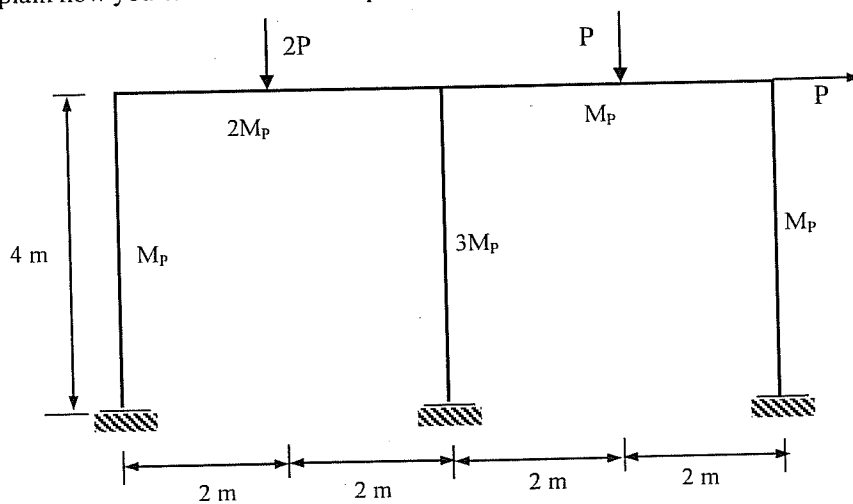

Figure Q6
- (ii) A two-bay frame structure is shown in Figure Q6. Dimensions and plastic moments of the beam are given in the figure.